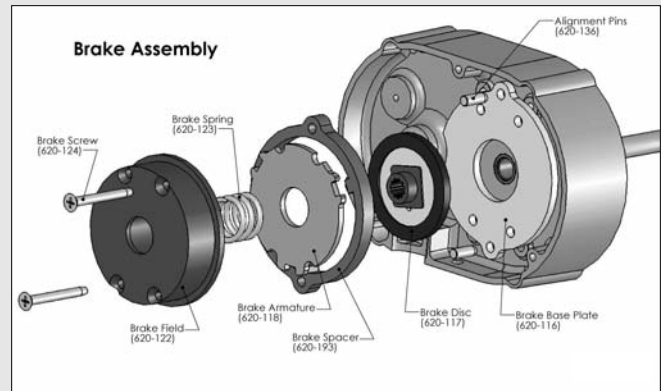

Figure 8B
- Refer to Figure 8B and disassemble the brake. Depress and hold the field assembly (620-122) while removing the four brake screws (620-124). The field assembly is under spring pressure and will spring-out if not held. Examine the base plate (620-116), brake disc (620-117) and armature (620-118) for excessive wear, scoring or warpage. Make sure the brake disc is not glazed, the coil firmly fixed in the field (620-122) and the brake spring (620-123) is not damaged. Worn, scored, warped, glazed or damaged parts should be replaced before proceeding.
- Refer to Figure 8B and assemble the brake. Depress and hold the field assembly (620-122) while installing the four brake screws through the brake parts and mount the brake on the gear housing (620-113). Tighten the four brake screws (620-124) to 25 in.lb. (2.8 NM).